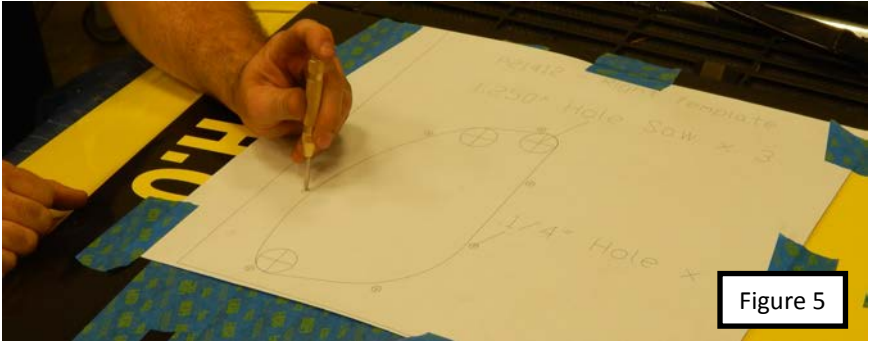

Figure 5
6. Center punch each of the holes to be drilled (Figure 5).